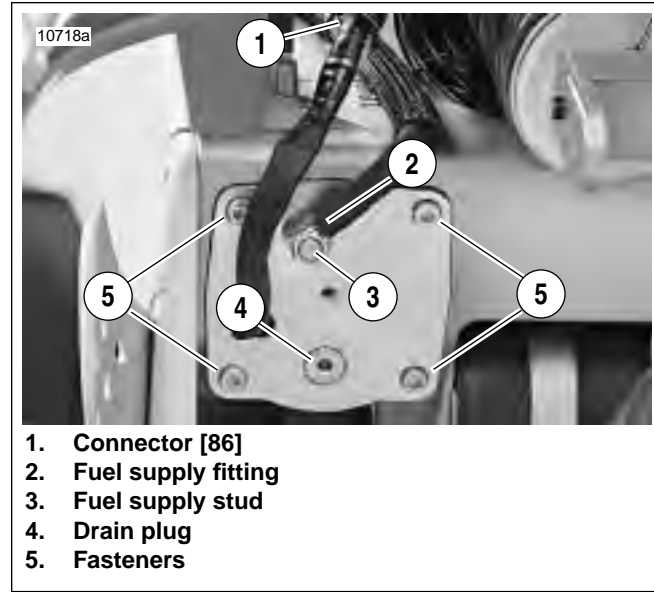

Figure 4-23. Fuel Pump Installation
- a. See Figure 4-23. Disconnect the 4-place fuel pump connector [86]. The connector is located inside the left rear portion of the fuel tank/frame.
7. See Figure 4-23. Attach fuel pump connector [86] to main wiring harness.